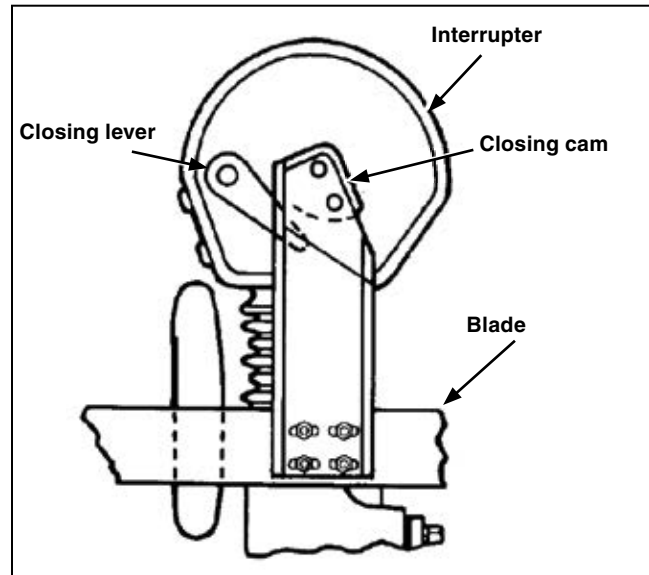

Figure 35. The blade assembly moving in the Closing direction.
- As the blade assembly moves in the Closing direction, each blade-closing cam must make positive engagement with its respective interrupter-closing lever. See Figure 35.